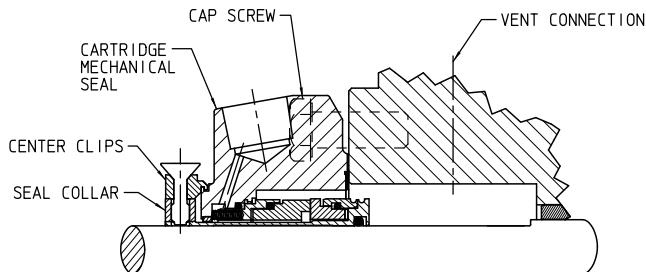

FIGURE 12
1. Cartridge (**Figure 12**)
2. Coat the shaft and O-ring in the inside diameter of the cartridge seal sleeve with a generous amount of light oil. Refer to **Figure 12**.